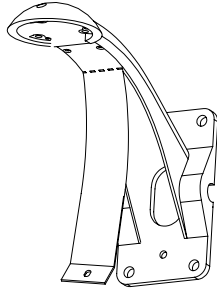

Figure 5
- 2) Take out the cover of the wall-installed bracket. ( Figure5 ) .